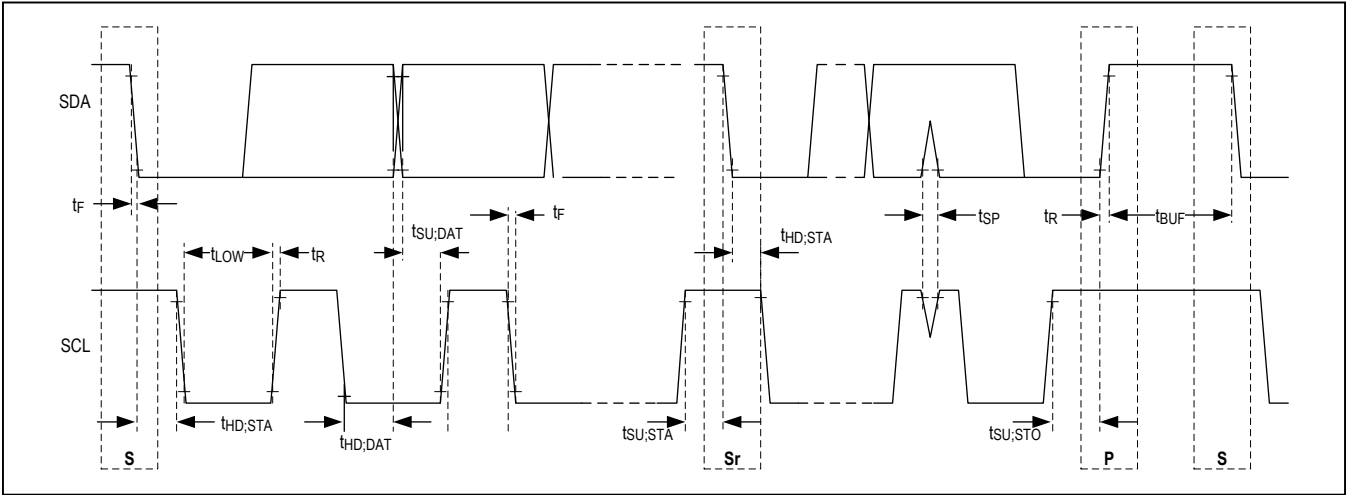

Figure 2. Timing Diagram
**Note 5:** See Figure 2 for timing diagram. All timing is referenced to  $0.9 \times V_{DD}$  and  $0.1 \times V_{DD}$ .